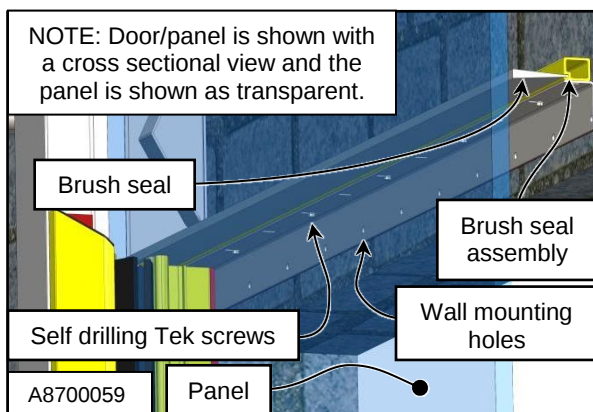

Figure 53
2. Remove the #12-14 x 1.0 Hex head Tek screws. (See Figure 53)